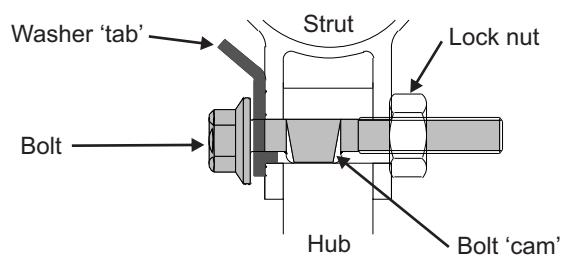

Fig 3. Negative Camber
- for negative camber adjustment, install with large tab towards strut. Refer Fig 3. (page 2)